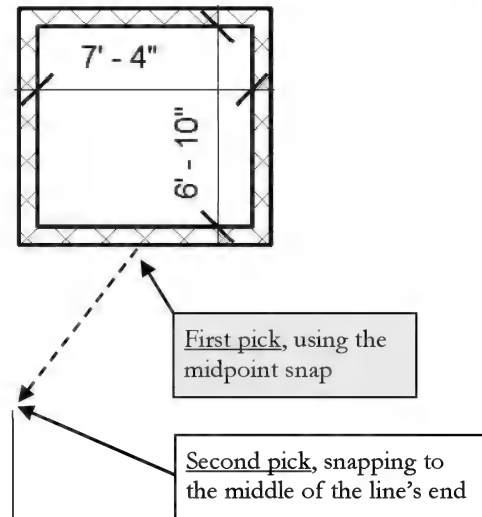

FIGURE 3-3.4 Move elevator shaft into place
15. Snap to the *Midpoint* of the shaft as your first point, and then snap to the *Middle Endpoint* of your temporary detail line (Figure 3-3.4). You should zoom in to verify your snaps. Do not draw the dimensions; they are for reference only.